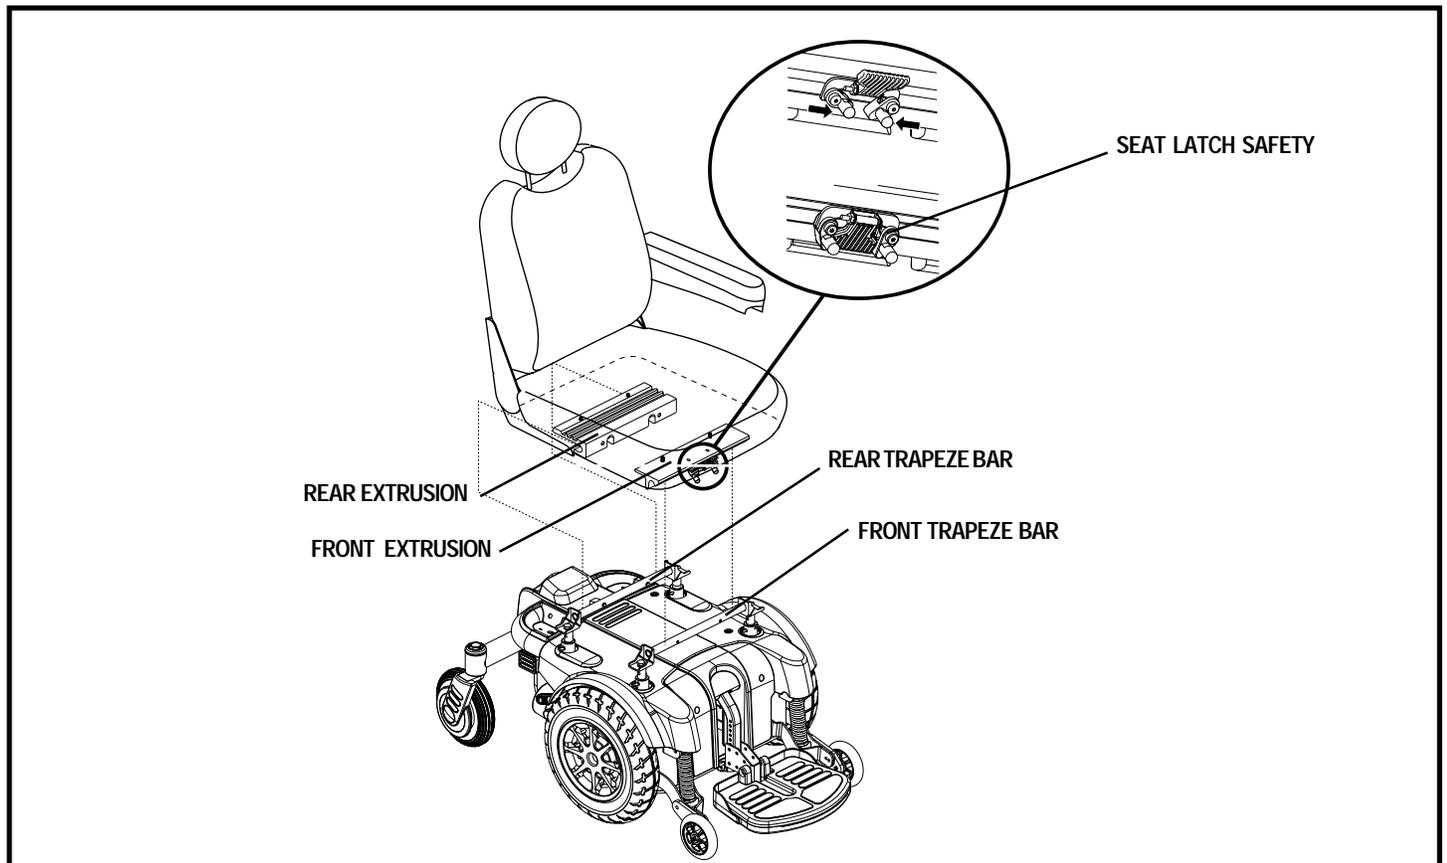

Figure 11. Seat Installation
It may be necessary to install the seat either prior to initial operation or after transporting your power chair. Most seats are attached to the power base with the Universal Mounting System (UMS). The UMS consists of universal parts that may be attached to any medium-back or high-back seat, regardless of seat width or seat depth. The two main components are aluminum extrusions mounted to the seat base. These extrusions attach to a pair of trapeze bars that are mounted to the power base. See figure 11.
2. Tilt the seat back and slide the rear extrusion onto the rear trapeze bar. See figure 11.